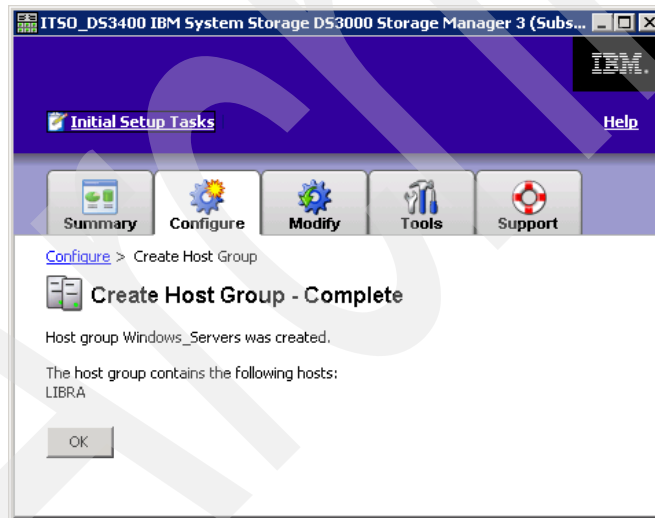

Figure 9-26 Create Host Group - Complete
2. Click **OK** to confirm your settings and the new host group will be created, as shown in Figure 9-26. Click **OK** to return to the main Configure tab.